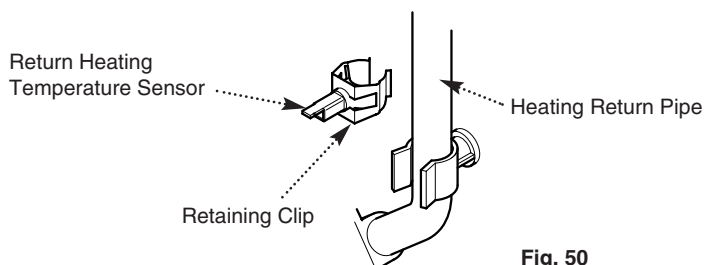

Fig. 50
12.11 Return Heating Temperature Sensor (Fig. 50)